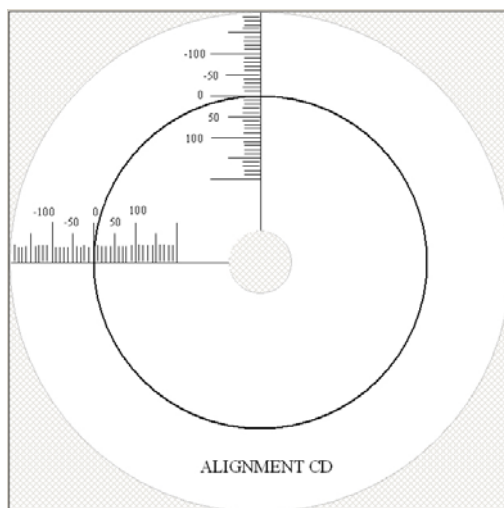

Figure 2
3. The alignment guide will be printed on the disc (see figure 2).